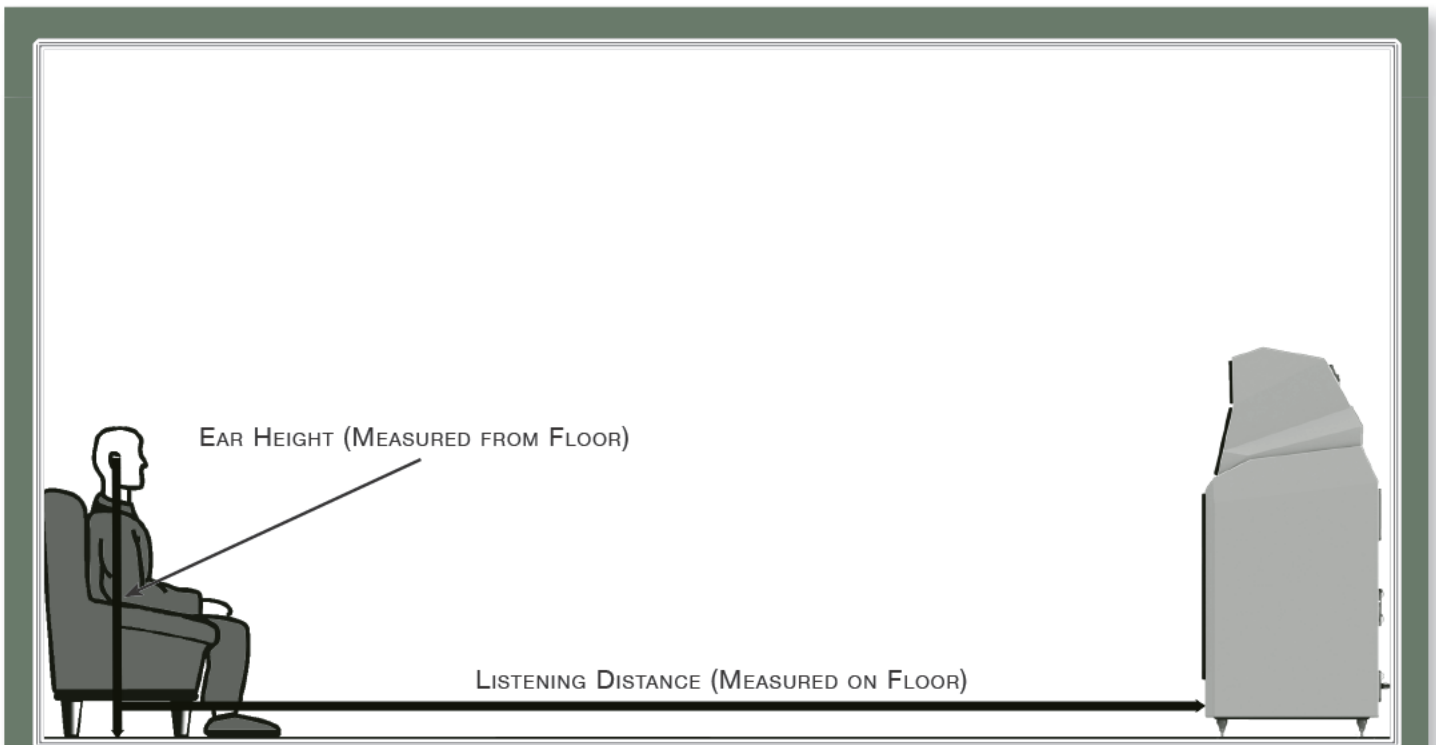

FIGURE 4—MEASURE LISTENING DISTANCE AND EAR HEIGHT.
4. While sitting, have someone measure your ear height from the floor directly below your ear canal. You should be relaxed in your chair, as you would be when listening to music (see Figure 4).
5. Now measure the distance (on the floor) from the point on the floor below your ear to the base of the loudspeaker, as shown in Figure 4